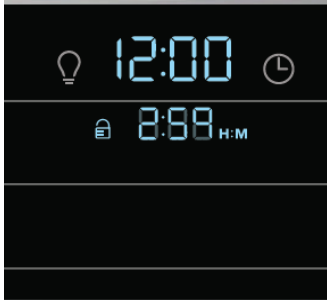

Figure 33: Clean cycle in progress
4. During the clean cycle the time of day remains in the display and the time remaining in the clean cycle will also be active. (Figure 33)